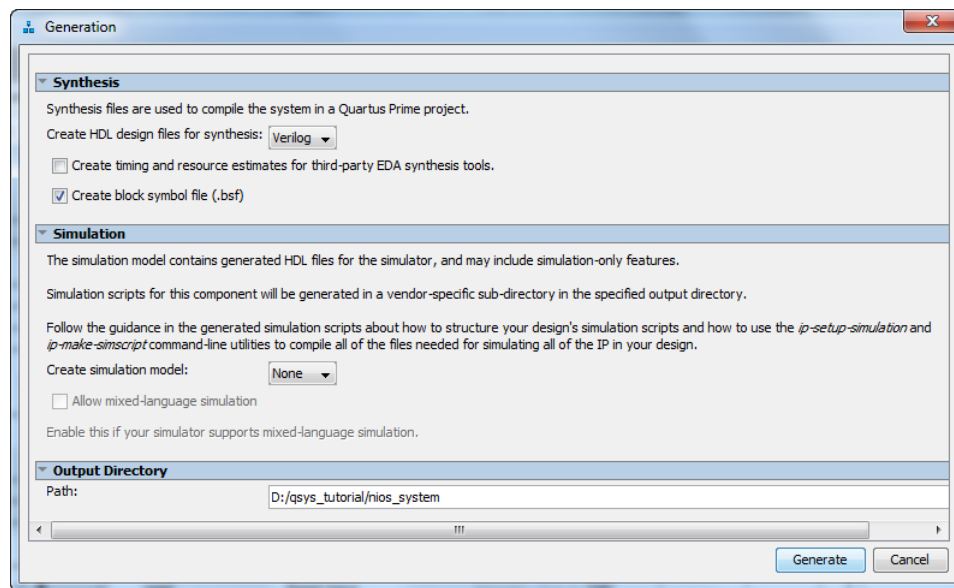

Figure 19. Generation of the system.
- Having specified all components needed to implement the desired system, it can now be generated. Save the specified system; we used the name *nios_system*. Then, select **Generate > Generate HDL**, which leads to the window in Figure 19. Select **None** for the option **Simulation > Create simulation model**, because in this tutorial we will not deal with the simulation of hardware. Click **Generate** on the bottom of the window. When successfully completed, the generation process produces the message "Generate Completed".